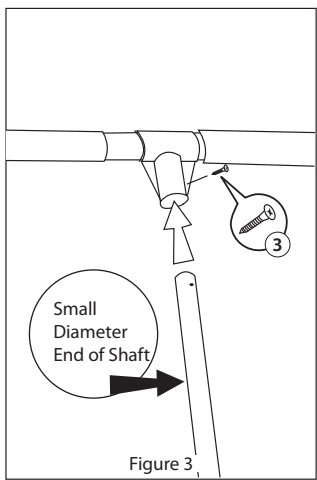

Figure 3
5. Assemble hanging pole by using screw (3) as shown in Figure 3. Be sure that the push button adjustment mechanism is on the backside.